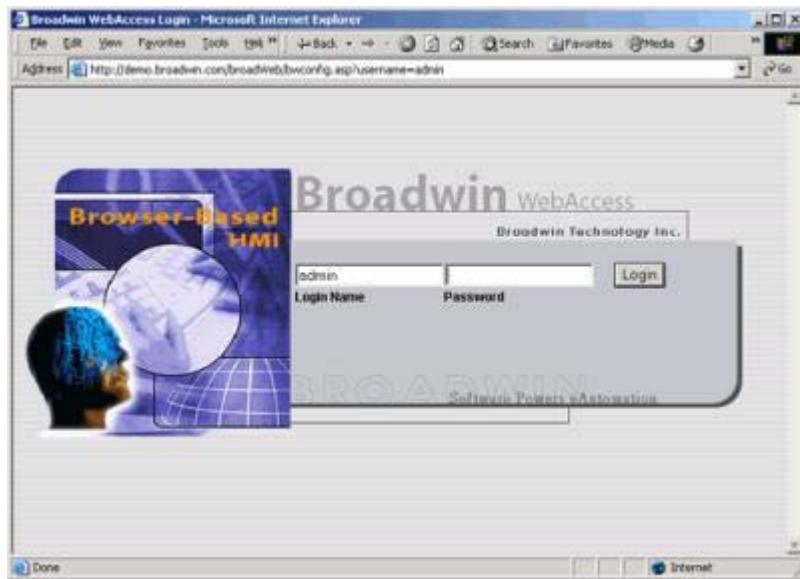

Figure 3-4 - Configuration Login (bwconfig.asp)
2. Configuration Login Page appears, Figure 3-4 (bwconfig.asp)